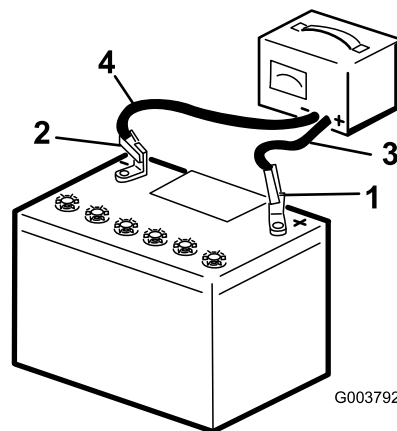

Figure 32
2. Charge the battery for 10 to 15 minutes at 25 to 30 A or 30 minutes at 4 to 6 A (Figure 32). Do not overcharge the battery.
3. When the battery is fully charged, unplug the charger from the electrical outlet, then disconnect the charger leads from the battery posts (Figure 32).